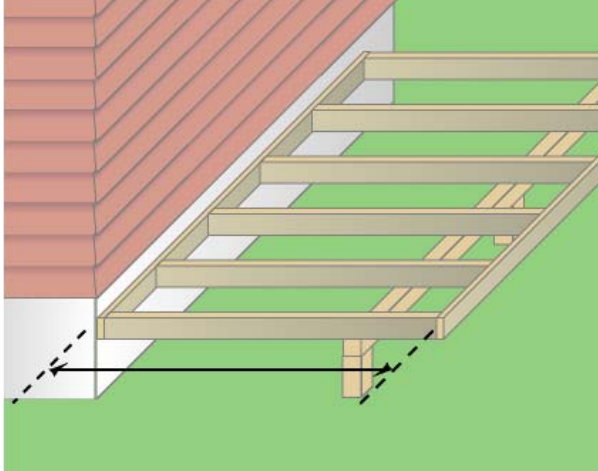

Figure 2: Deck Width Measurement
1. Measure the width of the deck surface (Figure 2). This measurement will be used to determine the amount of material to be removed from the starter board.